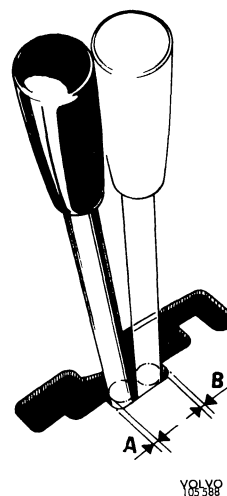

Fig. 4-62. Adjusting selector controls
4. Check the adjustment. This is done by checking the distances to the lin kin "N" and "D" position (A and B, Fig. 4-62). The clearance should be the same for both positions. If necessary, alter the length of the control rod.